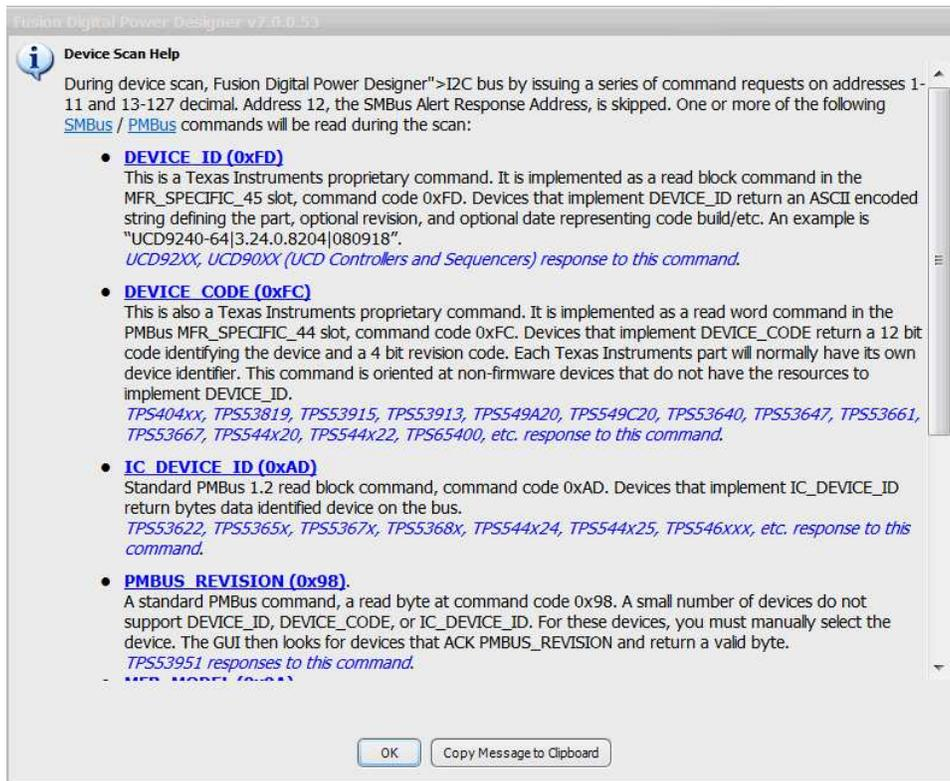

Figure 3-7. Device Scan Help
- Custom scan mode: some devices use PMBUS_REVISION (ReadByte 0x98) or MFR_MODEL (ReadBlock 0x9A) as a way to identify themselves on the bus. Click the Scan for Device button to customize the scan mode (see Figure 3-7).